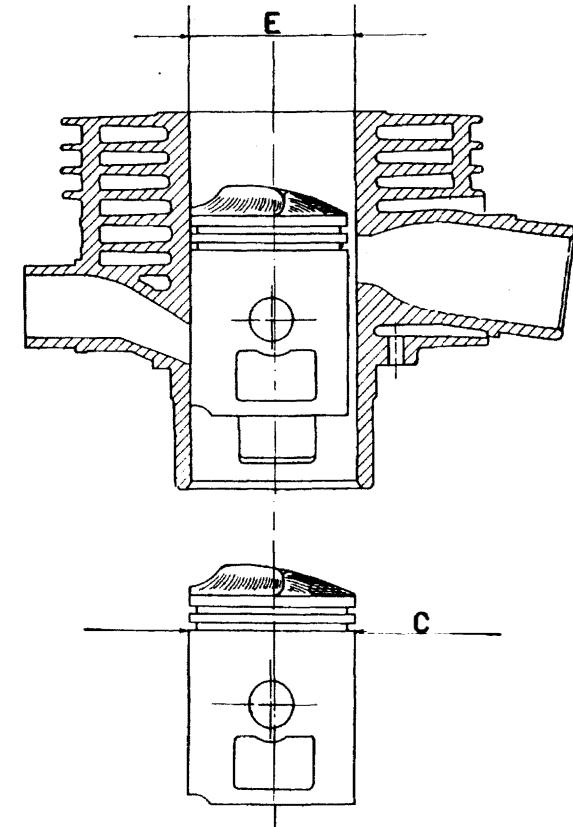

Fig. 14
- On assembling the piston into the cylinder ensure that the **arrow stamped on the piston crown (dome headed piston for mod. VNB)** is facing towards the exhaust port; deflector pistons (for old models of Vespa) should be mounted so that the **deflector is turned towards the exhaust port as illustrated at fig. 14.**
- **On assembling the piston into the cylinder ensure that the deflector is facing the exhaust port as indicated on fig. 14.**